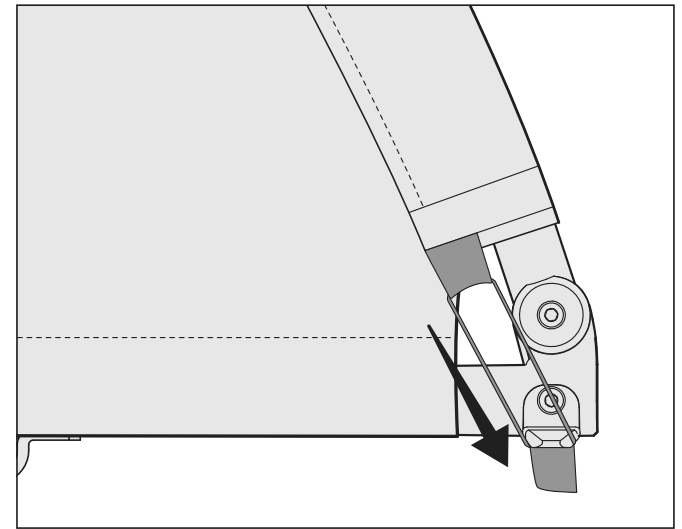

Figure 11
2. At the back of the trailer, hook elastic loops of the cover over the side knobs. (Figure 11)